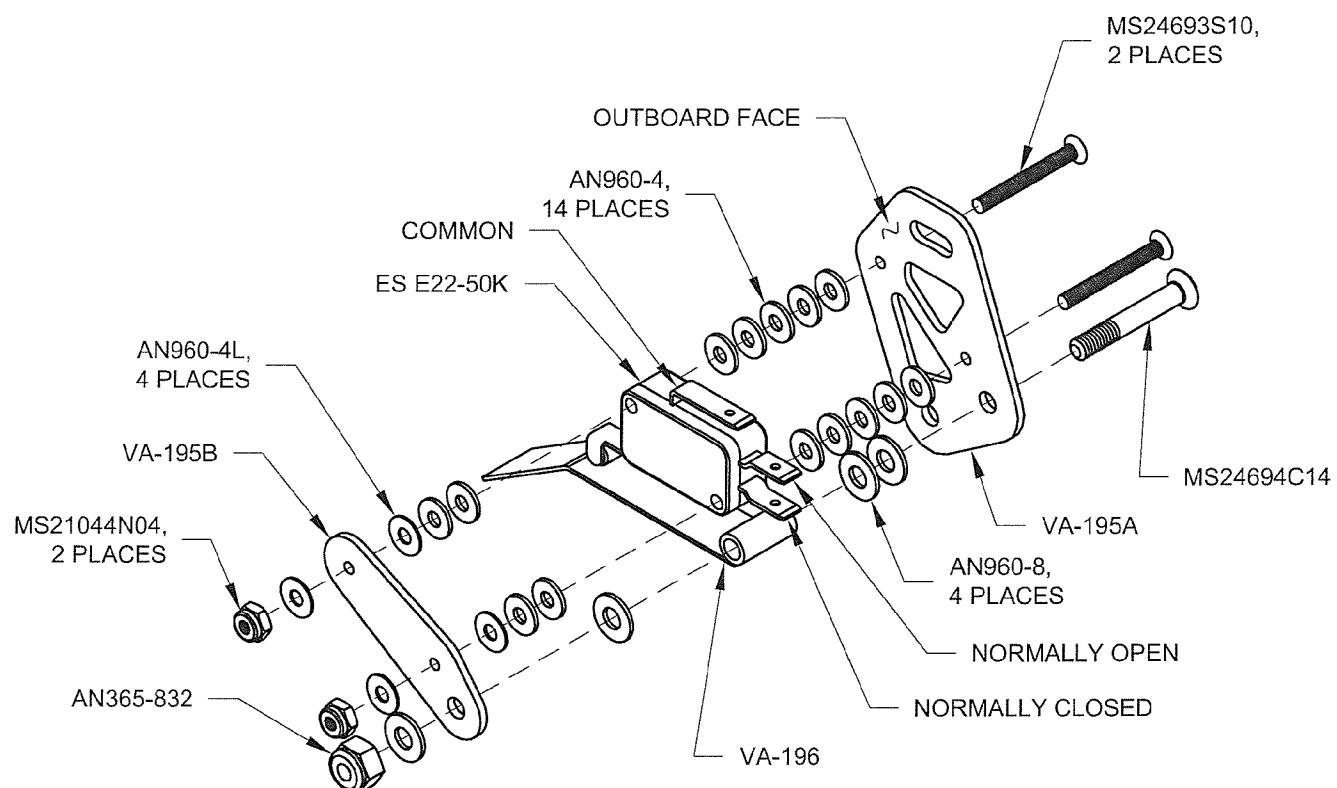

FIGURE 1: STALL WARNING SUBASSEMBLY
Step 2: Final-Drill #19 the hole in the VA-195A Mount Plate and VA-195B Keeper Plate that holds the #8 screw on which the VA-196 Stall Warning Vane pivots. Machine countersink this hole in the mount plate on the inboard side for the flush head of a #8 screw. See Figure 1.
Step 4: Assemble the Stall Warning Subassembly as shown in Figure 1. Do not over-torque the nut on the screw about which the vane pivots. Insure that the vane can rotate freely.